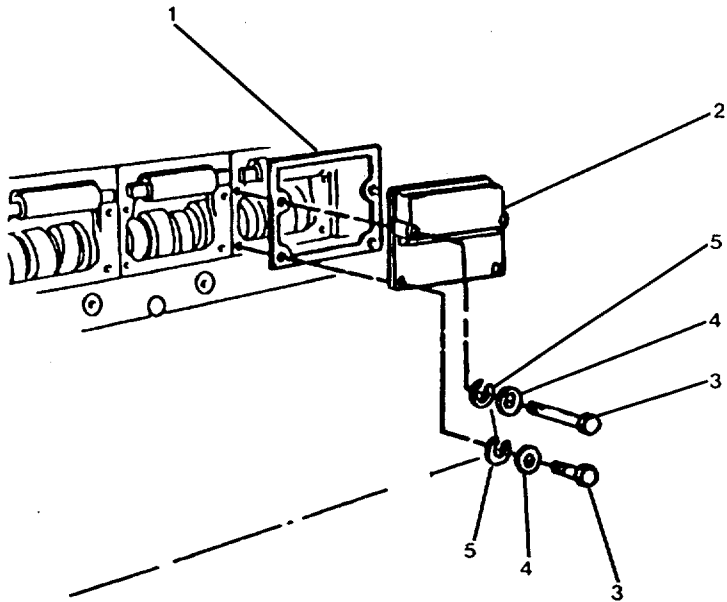
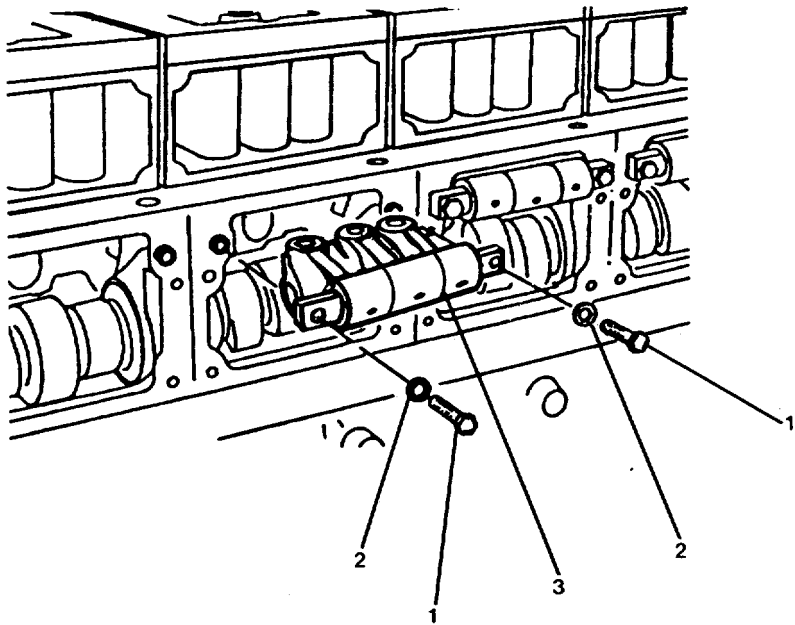

FIGURE. 4-37. Cam Follower Cover Removal/Installation.
FIGURE 4-38. Cam Follower Removal/Installation.
- b. Remove capscrews (3, FIG. 4-37), lockwashers (5), washers (4), cam follower covers (2), and gaskets (1). Discard gasket.
- c. Remove capscrews (1, FIG. 4-38) and lockwashers (2) securing the cam followers (3) to the cylinder block.
- d. Remove cam follower assembly (3, FIG. 4-38).
- a. Lubricate camshaft and cam follower assemblies (3, FIG. 4-38) with clean engine lube oil.
- b. Position the cam follower assemblies (3, FIG. 4-38) over the ring dowels in the cylinder block. Install washers (2) and capscrews (1) finger tight. Ensure the shaft fits correctly on both ring dowels.
- c. Torque the capscrew (1) alternately and evenly to 29 to 31 ft-lb (39 to 42 N•m).
- d. Install gasket(s) (1, FIG. 4-37) and cam follower cover(s) (2).
- e. Install washers (4), lockwashers (5) and capscrews (3). Torque to 30 ft-lb (40 N•m).